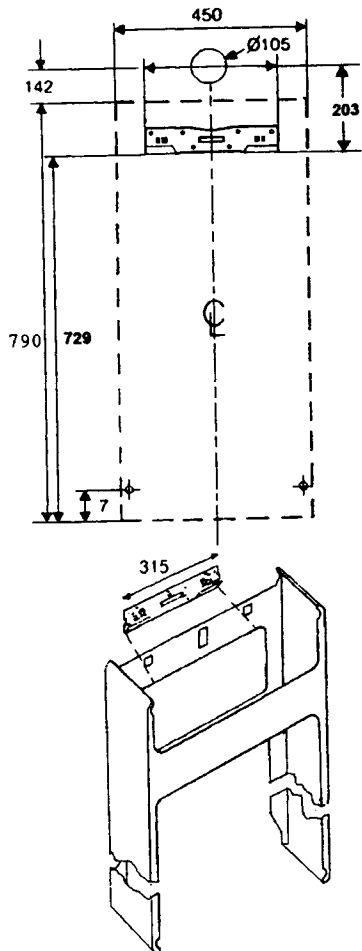
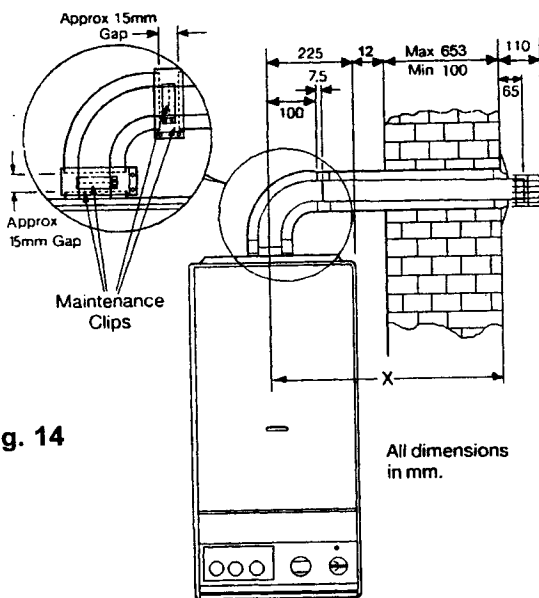

Fig.13
Fig. 14
5.4 Mounting the Appliance (Fig. 13)
Alternatively, position bracket and holes to dimensions in fig. 13.
Refer to fig. 13 and figs. 14 - 18 for relevant dimensions for locating the hole. Where it is remote from the boiler take special care to ensure hole is at the correct level so that the finished flue is horizontal.
Refer to figures 14 - 18
5.5.3 Hang the boiler on the bracket. Adjust the boiler sideways to its correct position. Measure carefully from the actual face of the outside wall from the centre of the flue bend. (Dimension X on Figs. 14 & 15).
Locate the small maintenance clip onto the flue elbow fig. 14 and assemble onto the flue outlet on the top of the boiler. Twist the flue bend to the outlet direction required, and tighten the maintenance clip to secure the flue bend in place. Carefully level across to check that the hole through the wall is 1° lower than the flue bend.
5.5.16 Referring to fig. 14 fit the large maintenance clips into position and secure the clip screws.
- 5.5.19 When the flue and appliance are finally positioned screw the lower frame to the wall (fig. 13)
- 5.5.27 Referring to fig. 14 assemble a small maintenance clip on the outlet of the boiler flue bend. Push the inner flue tube into clip and tighten clip screws.
- 5.5.29 Referring to fig. 14 fit the large maintenance clip into position and tighten clip screws.
- 5.5.39 Referring to fig. 14 fit the large maintenance clip into position and secure clip screws.